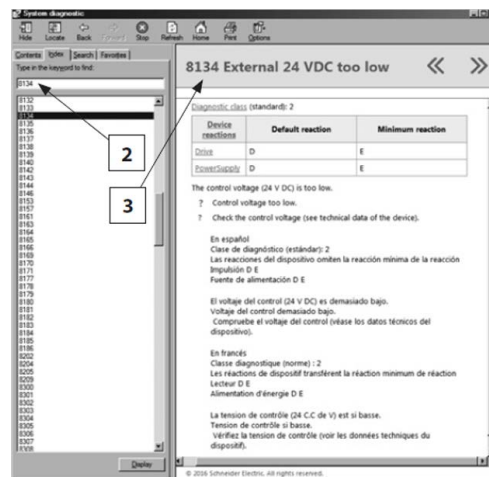

FIGURE 61
3. The possible causes, checks and corrections will be explained in English, Spanish and French on the diagnostic panel to the right (Figure 61).